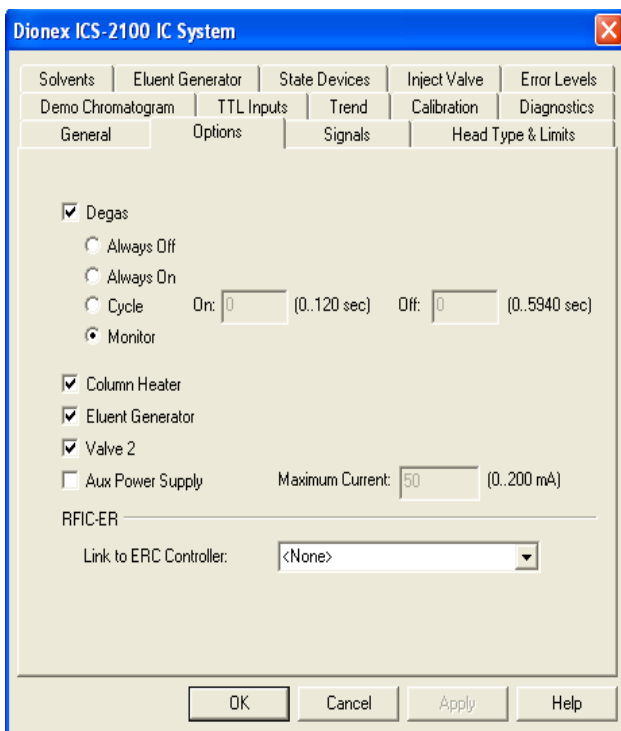

Figure 4-1. Dionex ICS-2100 Server Configuration Properties: Options
2. Select the **Options** tab (see Figure 4-1).